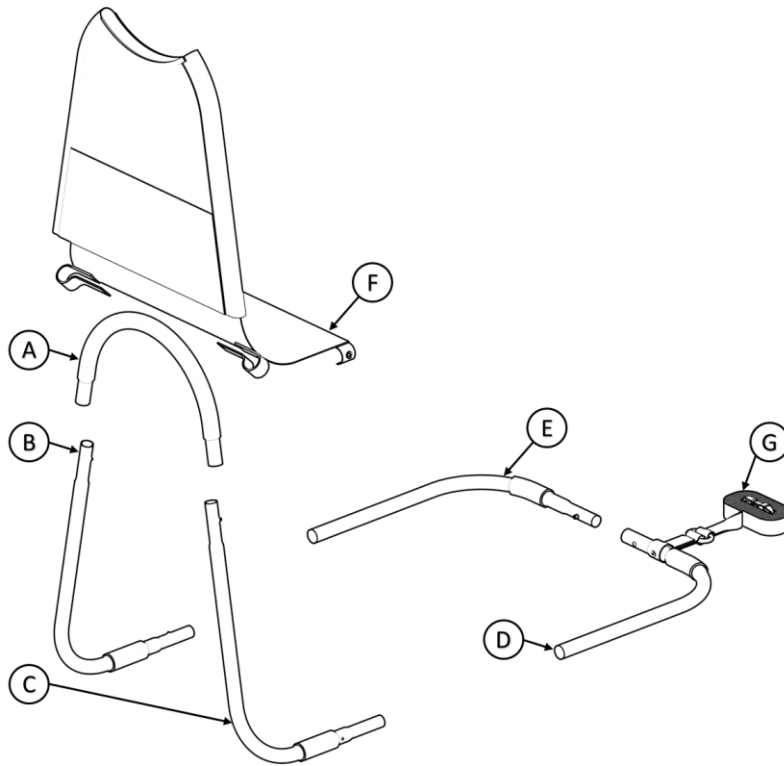

FIGURE 1
1. Remove product from box and identify all parts as shown in *FIGURE 1*. Note: each tube end has a numeric label (1,2,3). This shows you which tube corresponds with its mate, 1 goes to 1, 2 to 2 and 3 to 3.